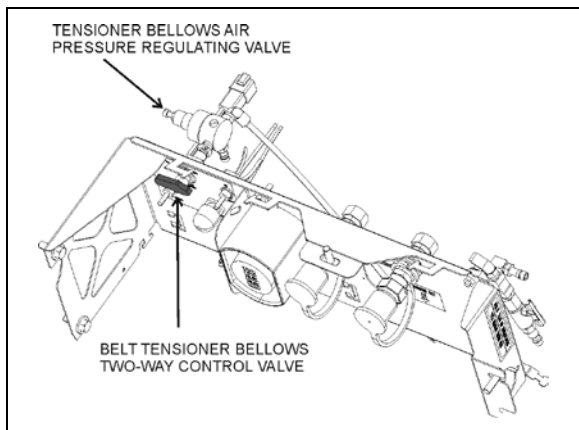

FIGURE 27: BELT TENSIONER CONTROL VALVE - H SERIES
2. For vehicles equipped with a 3rd alternator, belt tensioning is also applied through air bellows (Figure 25). Turn the belt tensioner two-way control valve counterclockwise to release bellows pressure (Figure 27).
For H Series vehicles equipped with a 3rd alternator, (Figure 25) belt tensioning is also applied through air bellows which is adjusted by an air pressure regulating valve pressure (Figure 27). The correct pressure of 45 psi is set at the factory. Periodically verify the pressure at the regulating valve using a pressure gauge and correct if required.
Belt tensioning is applied through air bellows which are adjusted by an air pressure regulating valve (Figure 27). The correct pressure of 45 psi is set at the factory. Periodically verify the pressure at the regulating valve using a pressure gauge and correct if necessary.